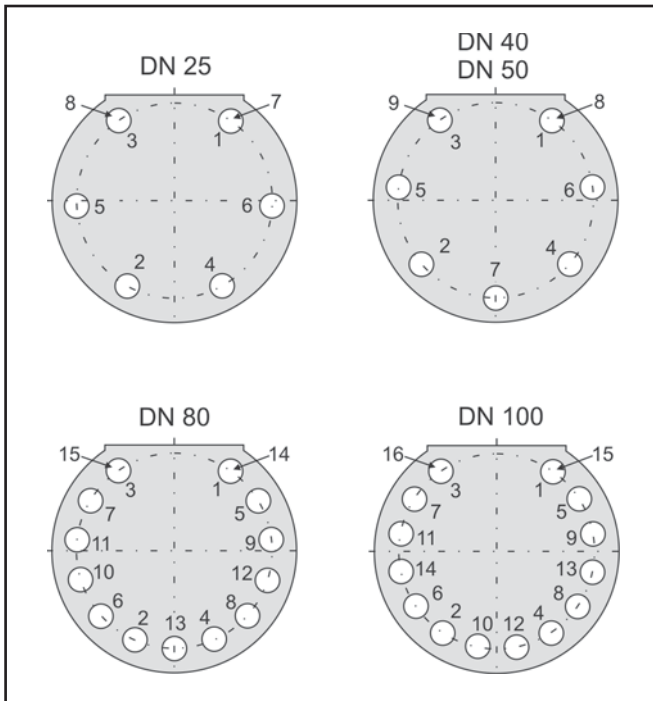

Fig 5 - Sequence for screwing the bolts
**Note:** The tightening pattern and tightening torque for each nominal size can be obtained from fig. 5 and table 3 section 4.4
**Note:** Also here, the tightening pattern and tightening torque for each nominal size can be obtained from fig. 5 and table 3 section 4.4
**Note:** The tightening pattern and tightening torque for each nominal size, can be obtained from fig. 5 and table 3 section 4.3
**Note:** Also here, the tightening pattern and tightening torque for each nominal size can be obtained from fig. 5 and table 3 section 4.3